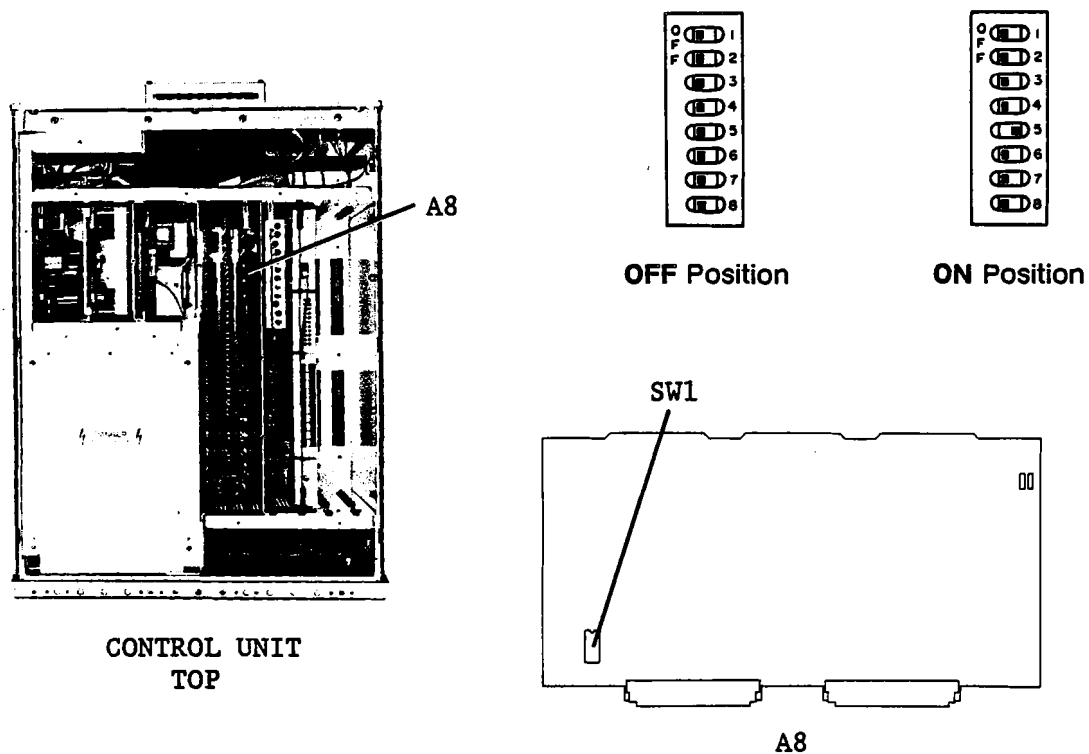

Figure 3-142. A8SW1 DIP Switch Location
7. Set bit 5 of DIP switch **A8SW1** to the **ON** position, as shown in Figure 3-142.
16. Set Bit 5 on DIP switch A8SW1 to the off position, as shown in Figure 3-142.